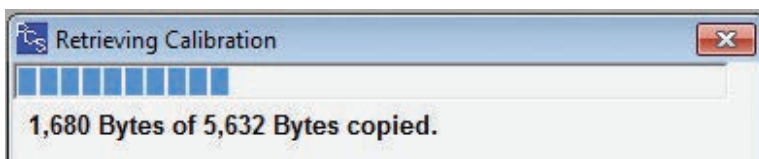

Figure 5
- o After the TCU has connected, the calibration will then be loaded. **Reference Figure 5.**